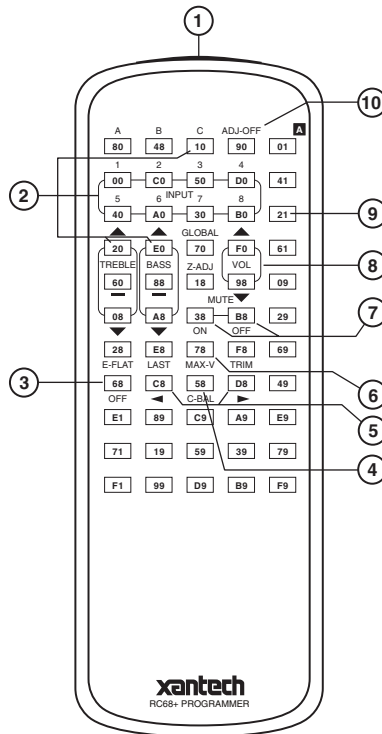

Figure 4 – The RC68+ Programmer
7. After the Code Groups are set up, "teach" volume and other commands from the RC68+ Programmer (Fig. 4) into learning remote controls (and the keypads) dedicated to each room. Be sure to set the RC68+ to the specific Code Group Number that corresponds to the ones chosen for each of the amplifier pairs, during this "teaching" process.